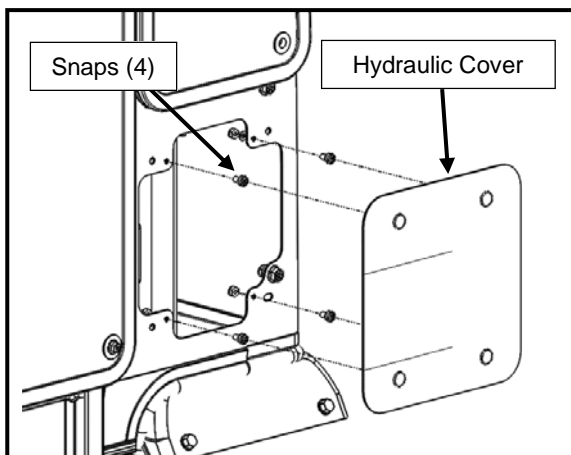

Figure 3.1: Hydraulic Cover
- 3.1 Fasten (4) #10-32 snap studs and (4) #10 hex nuts as shown in Figure 3.1